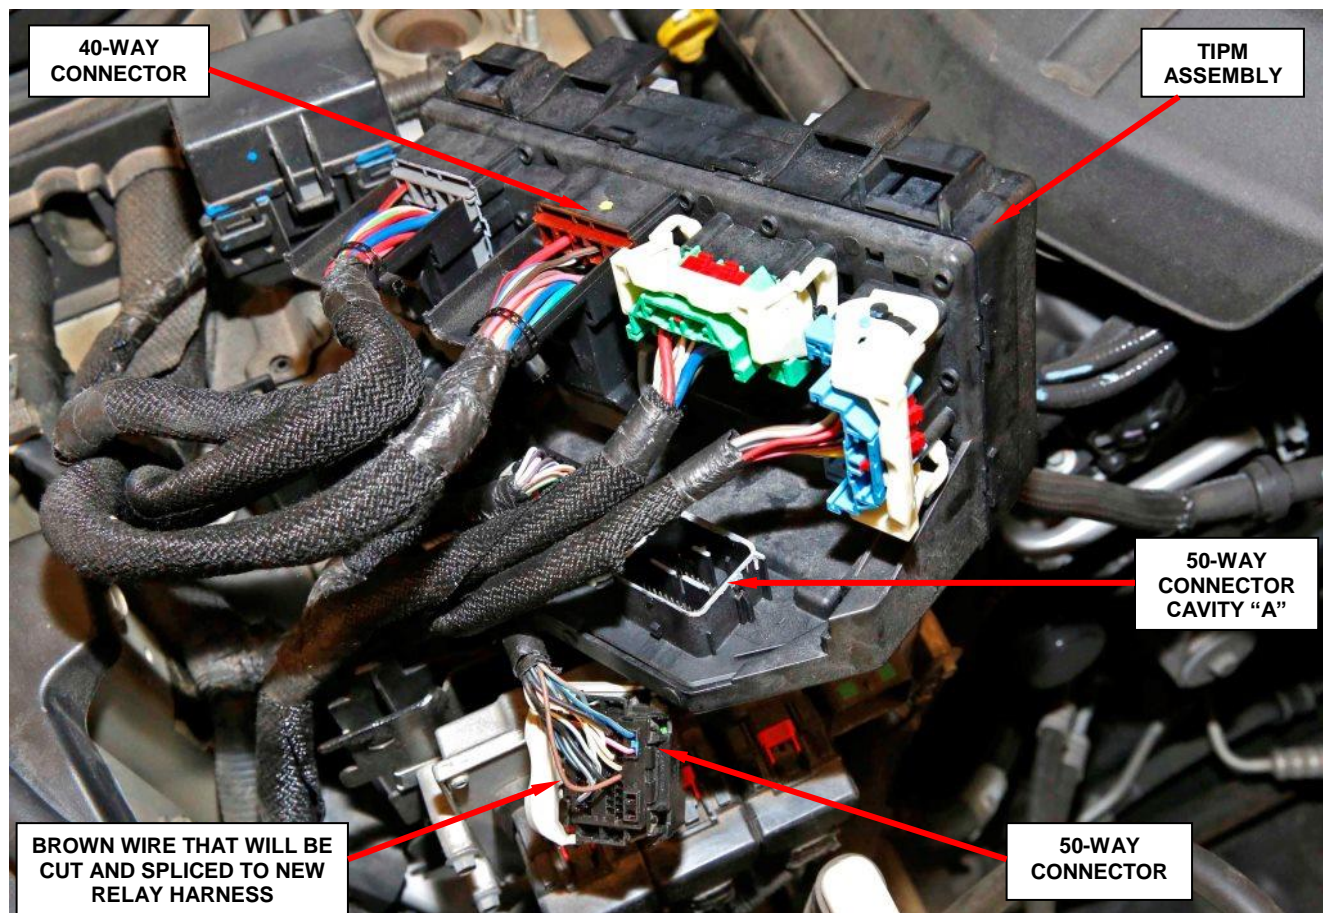

Figure 5 – TIPM 50-Way Electrical Connector
7. Unplug the 50-way electrical connector from the bottom of the TIPM (Cavity “A”) (Figure 5).